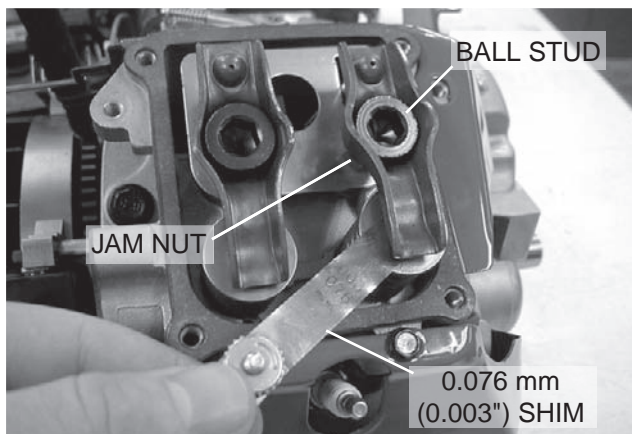

Figure 35.
1. Remove the four (4) screws from the rocker cover.
3. Loosen the rocker arm jam nut. Use a 10mm allen wrench to turn the pivot ball stud and check the clearance between the rocker arm and the valve stem with a flat feeler gauge (see Figure 35).